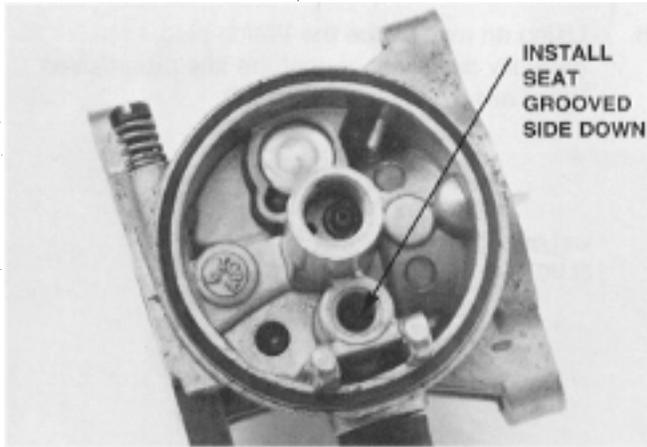

Figure 18
2. Install the fuel inlet valve seat: coat the seat with oil and install it grooved side down (**Figure 18**).